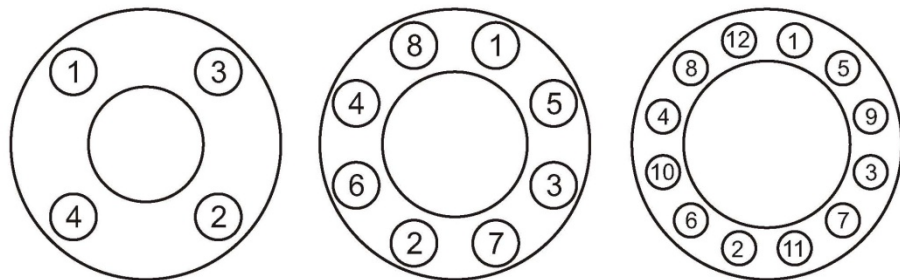

Fig.2.4 - Tightening sequence for flange bolts
- Tighten the nuts in sequence as shown in fig.2.4. Tightening force for flange bolts is presented in table 2.3;